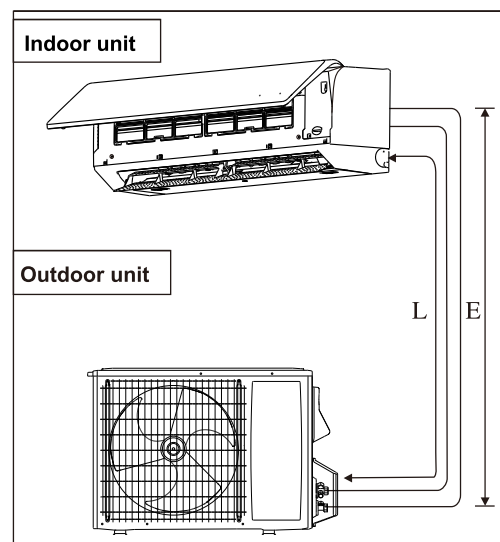

Fig 1.
- Cut the pipe as straight as possible (See Fig 1.). Make sure to use a deburring tool to remove any burrs. Hold the pipe with opening facing down to prevent metal chips from entering the pipe (See Fig2.).